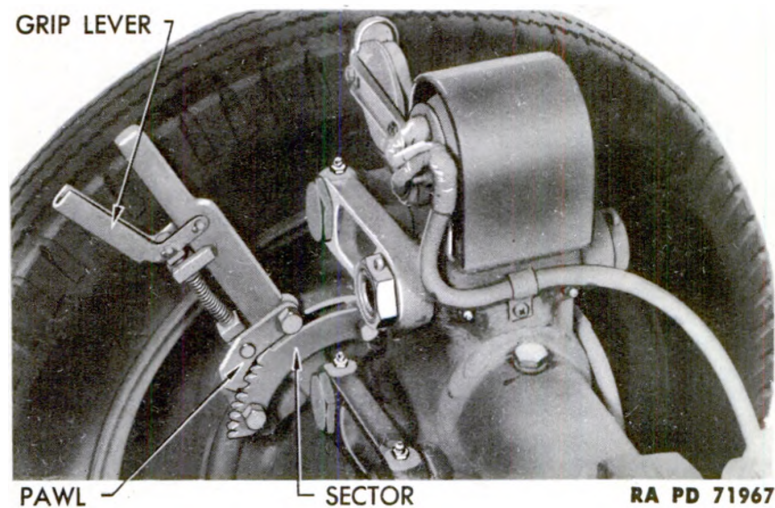

Figure 71 – Hand Brake Lever
(1) The parking or mechanical hand brake mechanisms on the rear wheels are operated by hand brake levers (fig. 71) assembled to the brake backing plates. Each lever is secured in the engaged position by a spring-loaded gear sector pawl which engages the teeth of a hand brake sector. A grip lever is squeezed toward the hand brake lever to release the brakes.
a. The light equipment (fig. 71) consists of two lamp fixtures with tail lamp guards and side and rear reflectors mounted on the tops of the rear axle cross heads, side reflectors mounted on the tops of the front axle cross heads, and a reflector mounted on the front of the cover.